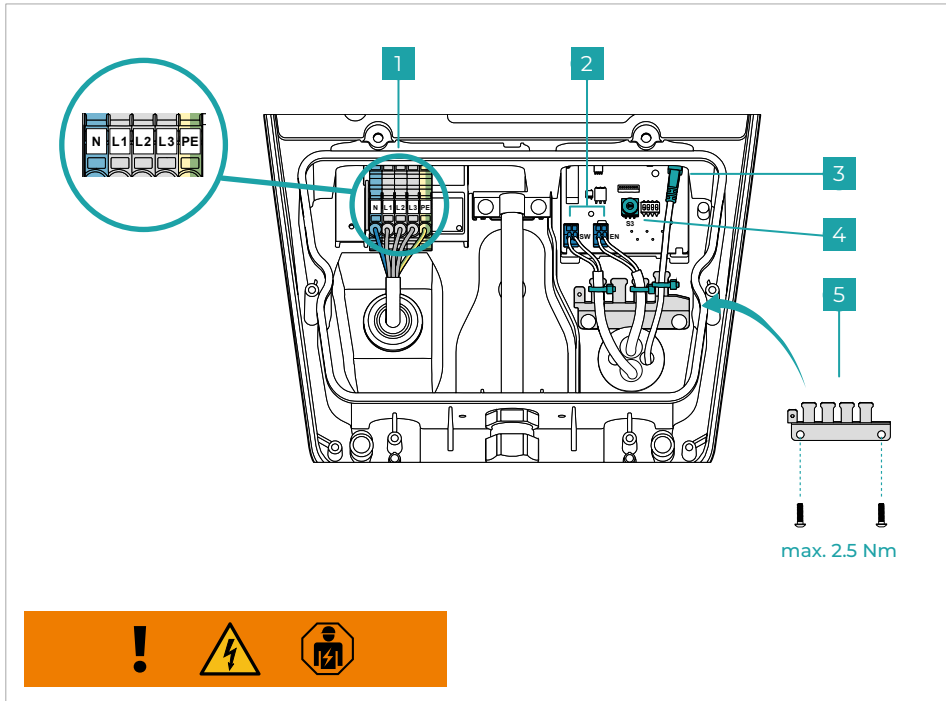
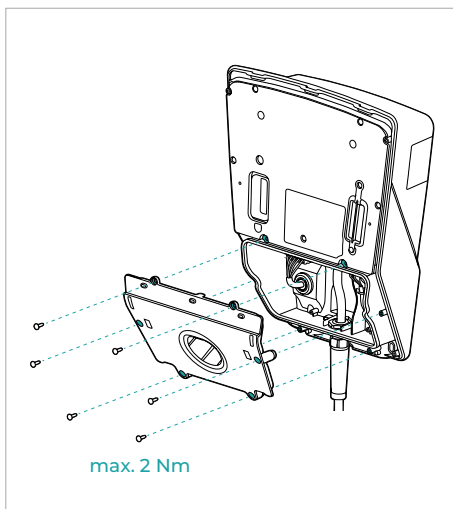

Fig. 6
Fig. 7
An optional external blocking device (e.g. key-operated switch) can be connected to the internal interface (**Fig. 6 - no. 2 - EN interface**).
- Appropriately prepare the mains connecting cable ($\varnothing 10 - 20 \text{ mm}$ // max. $5 \times 6 \text{ mm}^2$) and connect it as shown in **Fig. 6 - no. 1**. The illustration shows the mains connection via three phases. Use N, L1 and PE to connect the charging system to the mains via one phase.
- Configure the maximum charging current of 6 A to 16 A using rotary switch S3 as shown in **Fig. 6 - no. 4**.
- Optional: Prepare the data cables (Digital In (EN) / Out (SW) and LAN) and connect them as shown in **Fig. 6 - no. 2 and no. 3**. Remove the cable bridge before connecting an external blocking device via Digital In.
Fit the strain relief as shown in **Fig. 6 - no. 5** and fix the data cables using cable ties. Mount the lower cover of the charging system as shown in **Fig. 7**.